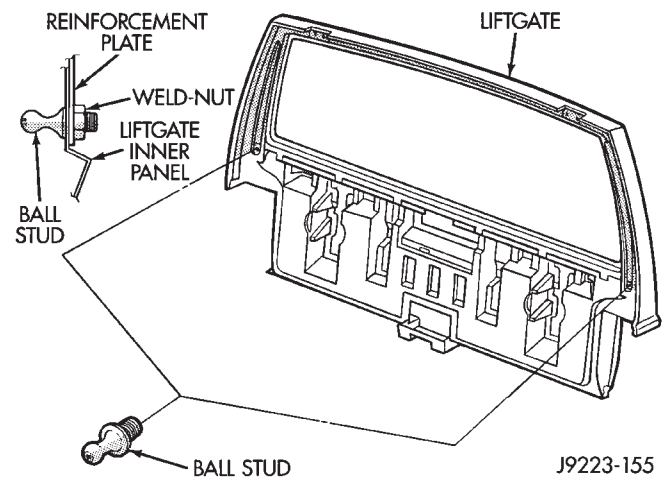

Fig. 129 Support Rod Ball Studs
- (1) Open the liftgate.
- (2) Support the liftgate in the open position.
- (3) Remove the retainer clip that attaches the support rod and cylinder to the ball stud.
- (4) Disconnect the support rod from the ball stud.
- (5) Remove the ball stud from the liftgate with a T-30 Torx-head socket wrench (Fig. 129).